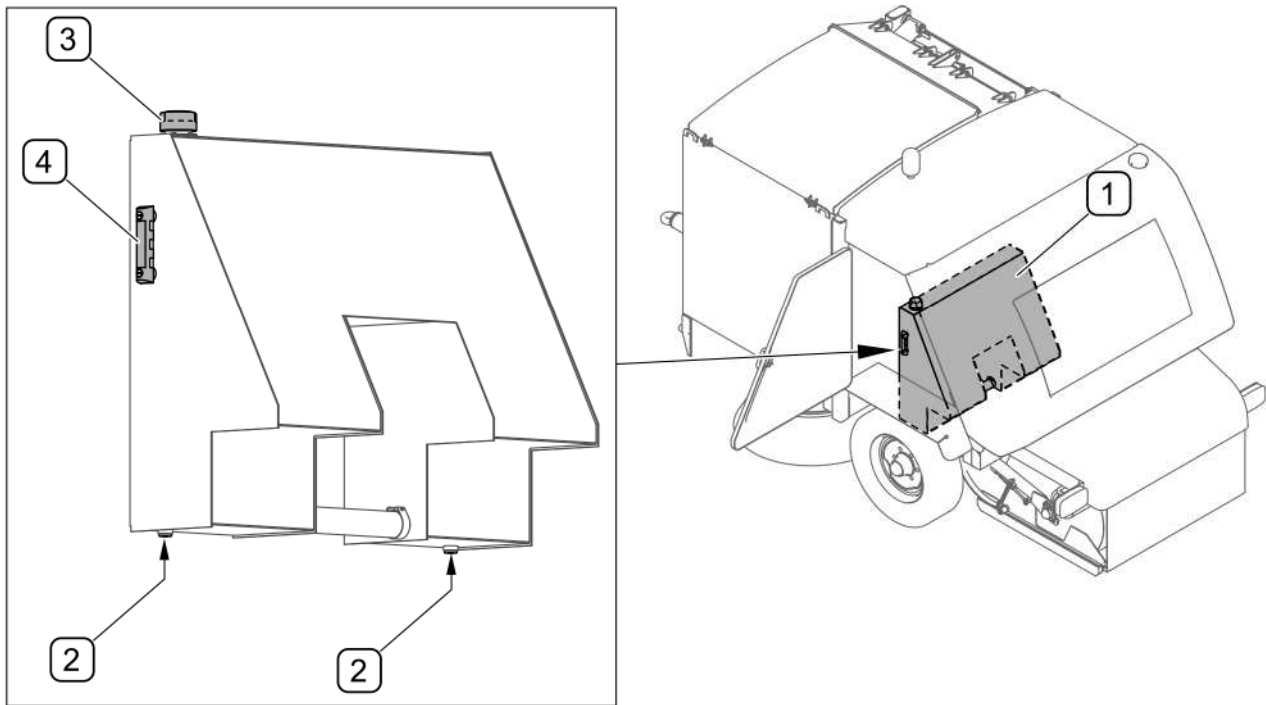

FIG. 5.16 Oil tank in hydraulic system
Oil tank (1) of hydraulic system contains 190 litres of HL-32 hydraulic oil. Check periodically the oil level on the oil level dipstick (4) (FIG. 5.16). Open the rear left-hand shield in order to gain access to the oil level dipstick (4).
To change oil in the hydraulic system (FIG. 5.16) tank: